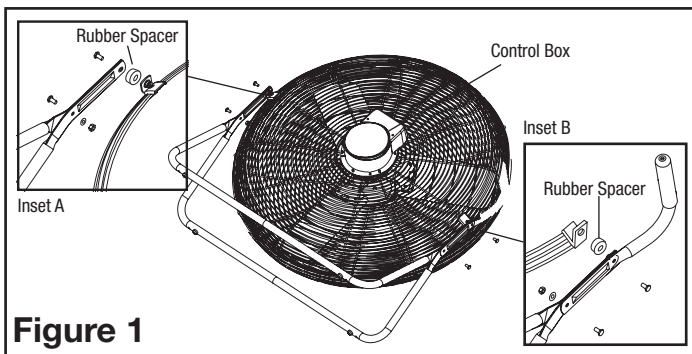

Figure 1
2. Place Fan flat on the floor with the motor facing towards the ceiling. Make certain the control panel on the top of the motor is facing forward (**Figure 1**). Orient stand halves as illustrated and install (1) 1/4-20 X 1" bolt through upper stand hole on both stand halves. Place a rubber spacer between the stand halves and the rear grill pivot bracket to left of motor (**Inset A**). Secure the bolt tightly.
3. MAKE CERTAIN HANDLE IS FACING OUTWARD AND IS ON THE RIGHT SIDE OF THE MOTOR. While holding handle in position as shown, install (1) 1/4-20 X 1" bolt through handle and upper stand halves. Place a rubber spacer between the stand halves and the rear grill pivot bracket to right of motor (**Inset B**). Secure the bolt tightly.
4. Install (1) 1/4-20 X 1" bolt, (1) 1/4-20 hex nut and (1) 1/4" lockwasher to the remaining lower holes on each side of the fan (**Figure 1**).